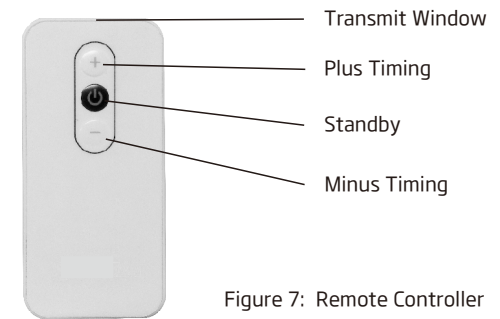

Figure 7: Remote Controller
- ▶ Use infrared remote controller to operate the device. (Figure 7)